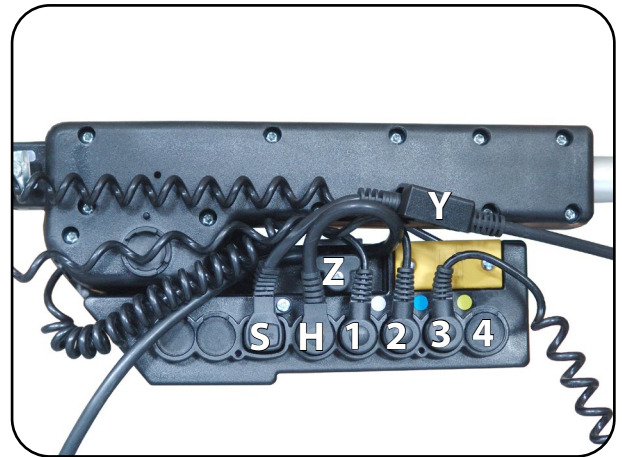

Fig. 6.2.05 – Controller with motor power cables
4. Plug in the drives as shown in Fig. 6.2.05.